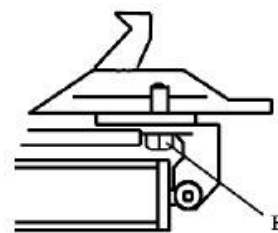

Fig 10
Note: After the first 20 days of use, retighten the jaws with tightening screws (B) on the Turntable (Fig 10)